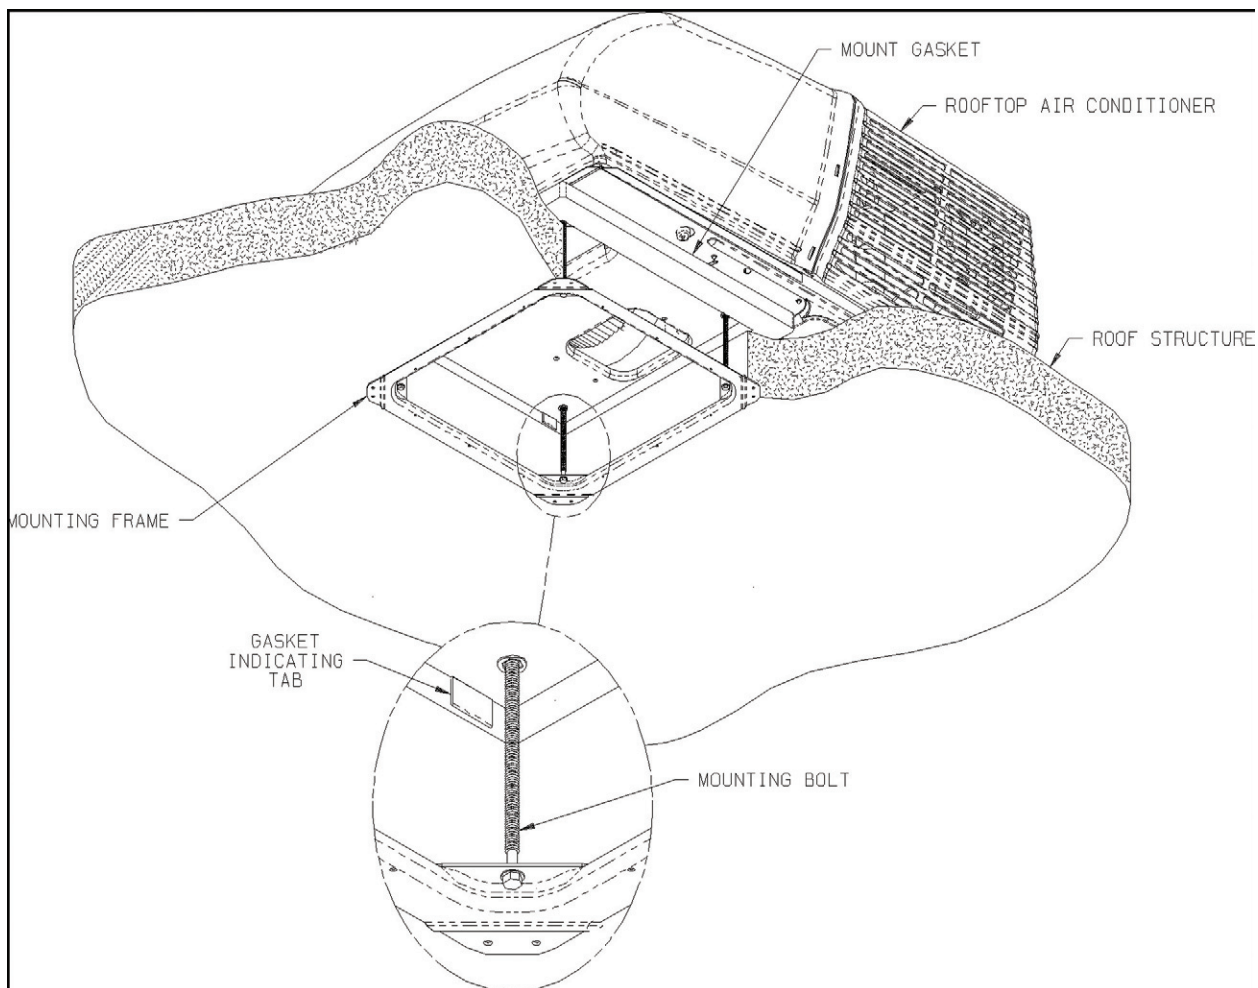

FIGURE 4
A mounting frame is supplied with the ceiling assembly. Follow the steps below to secure the air conditioner to the roof. Refer to Figure 4.
- C. Proper tension has been achieved for each bolt when any portion of each gasket indicating tab has been pulled down even with the roof. See Figure 4. The upper unit has now been properly installed with optimum gasket compression.